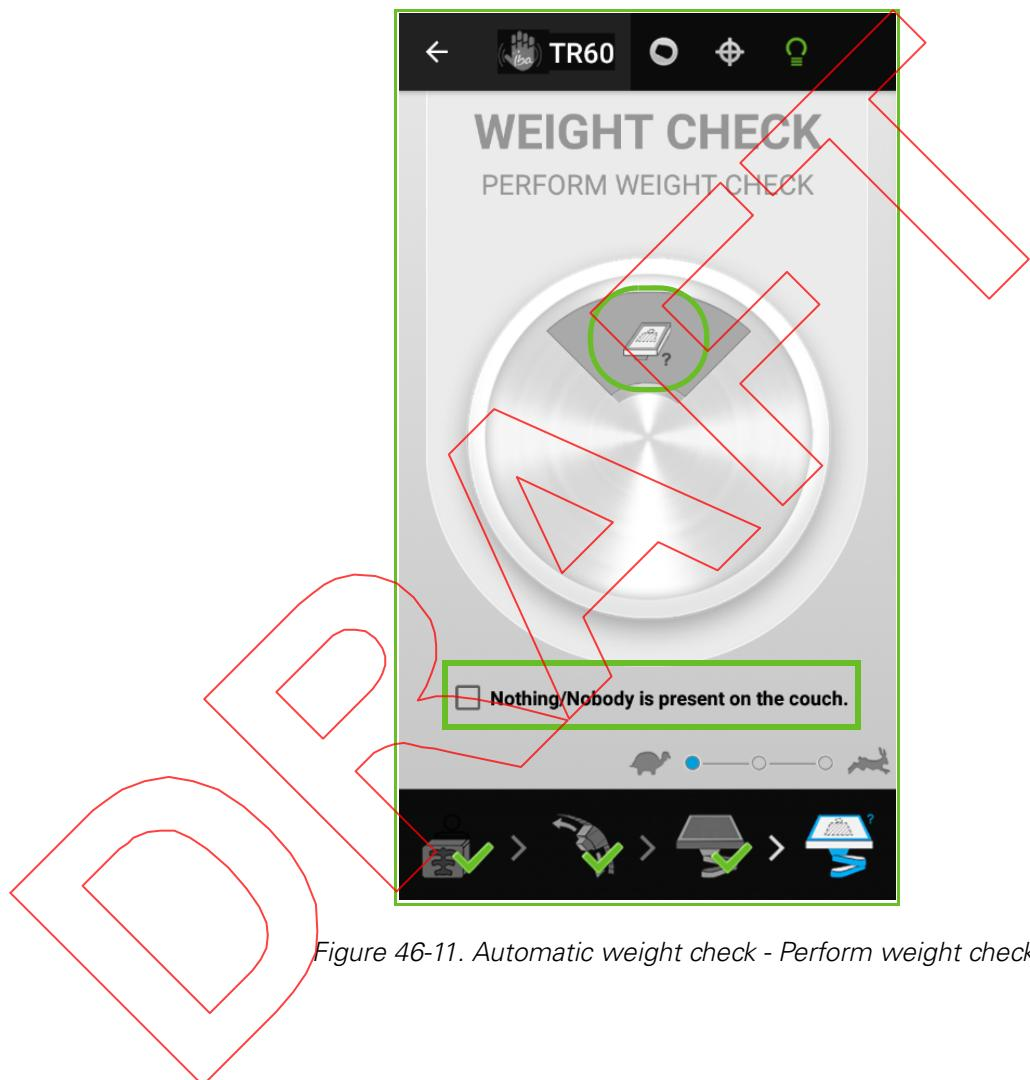

Figure 46-11. Automatic weight check - Perform weight check
4. Verify that there is no patient and no object on the couch. Then, check the box with the message Nothing/Nobody is present on the couch (green box in Figure 46-11).
5. Execute the automatic weight check by pressing the icon (green circle in Figure 46-11).